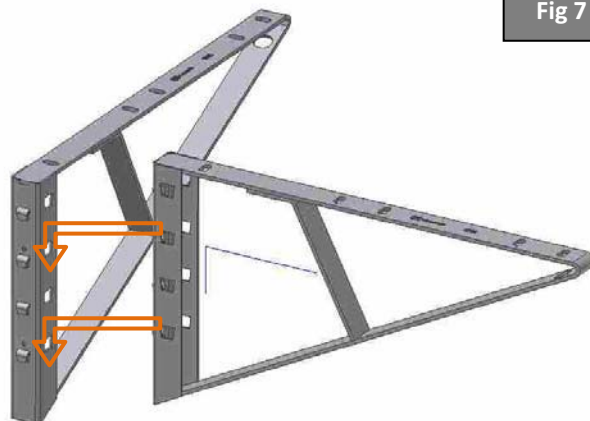

Fig 7
A) Insert the hooks of the **brackets** (1) in the trapezoids of the **bracket** (2) (Fig. 7).